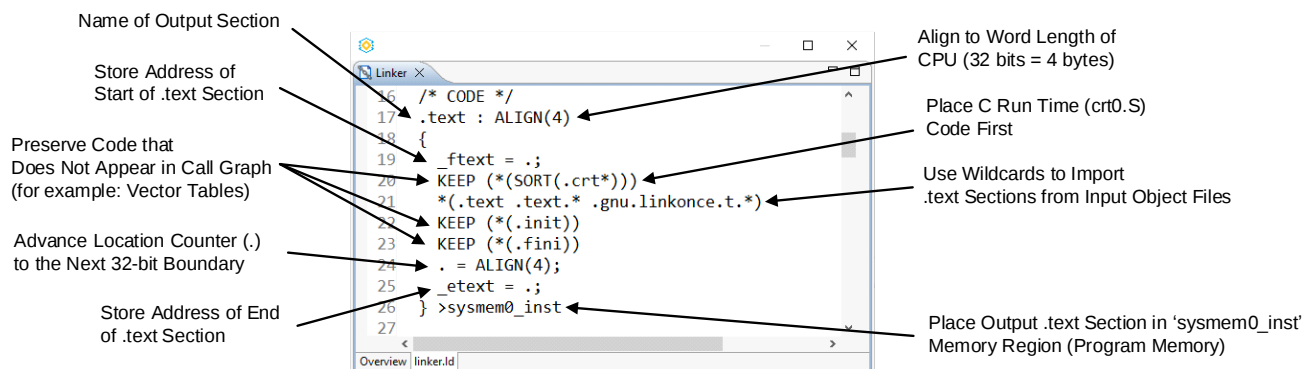

Figure 4.14. Autogenerated Linker Script .text Section
Figure 4.14 shows the definition for the .text output section.
Writing to the location counter built-in variable, '.', advances the location of the next placement. Figure 4.14 shows an example where ALIGN(4) is assigned to '.'. This assigned variable advances the location counter to the next 32-bit boundary.